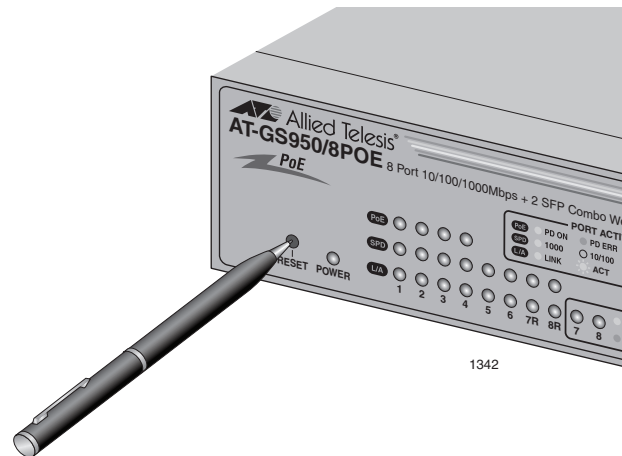

Figure 12. Resetting the Switch
2. Press the RESET button with the tip of a pen or a similar nonconducting object as shown in Figure 12.